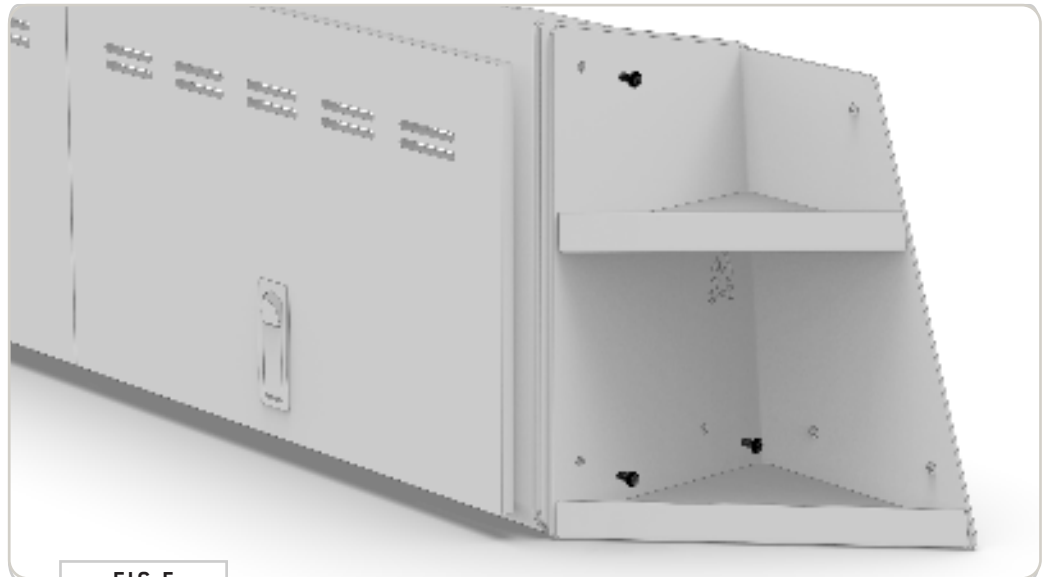

FIG 5
2.1 Install Shelf to Cabinet: Use (4) 1/4 x 0.5 Button Head Hex Drive Screws and Cap Nuts to install the Angled Shelf to the Cabinet (FIG 5+6).